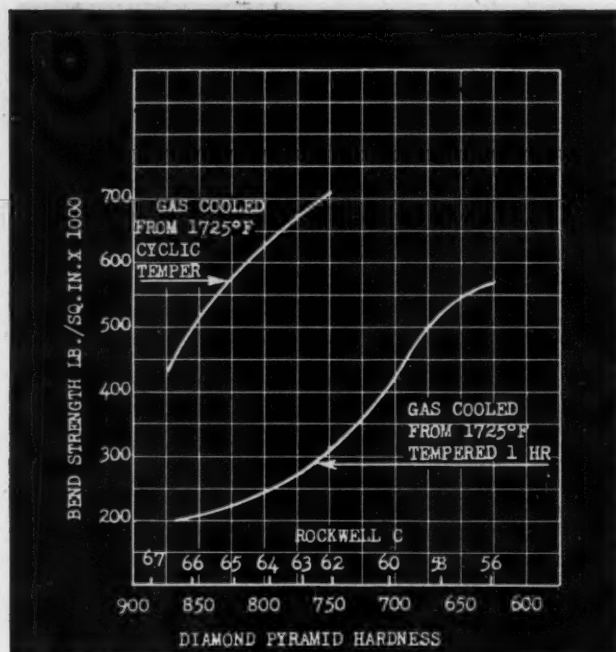

Fig. 5. Effect of Cyclic Treatment on the Bend Strength of Air-hardening Steel Containing 1 Per Cent Carbon, 5 Per Cent Chromium, and 1 Per Cent Molybdenum
H. Scott and T. H. Gray, metallurgical section engineer and consulting metallurgist, respectively, Westinghouse Research Laboratories, have shown (see Fig. 5) a more than 200 per cent increase in transverse bend strength over a considerable range in hardness by a cyclic treatment after hardening. This consisted of alternately tempering in boiling water and cooling to minus 100 degrees F. three times, followed by a final temper to the desired hardness. Evidence has been offered in the case of high-speed steel showing that all of the austenite can be transformed by tempering one or more times at the usual temperature (1050 degrees F.) followed by cooling to room temperature after each heating. The amount of austenite that will be transformed is dependent on the length of time the steel is exposed to the tempering temperature; the effect of the progressively reduced amounts of austenite on the properties of the steel is shown in the accompanying table [Cohen (8)].